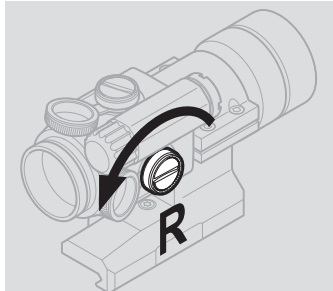
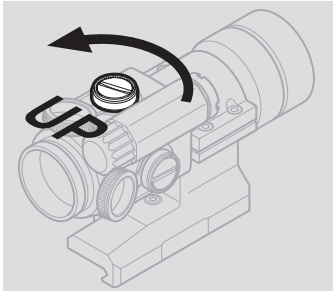

Fig. 4 Windage adjustments
Fig. 5 Elevation adjustments
- d Windage adjustment (see Fig. 4)
- Turn windage adjustment screw (6) counterclockwise to move point of impact to the right.
- Turn windage adjustment screw (6) clockwise to move point of impact to the left
- e Elevation adjustment (see Fig. 5)
- Turn elevation adjustment screw (5) counterclockwise to move the point of impact up.
- Turn elevation adjustment screw (5) clockwise to move the point of impact down.